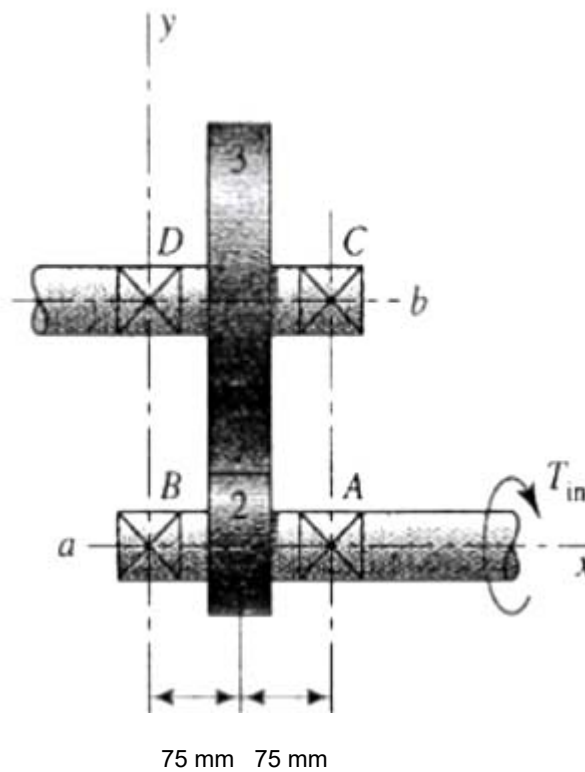

Figure 1(a)
1. (a) Figure 1(a) shows a pair of shaft-mounted spur gears having a diametral pitch of 5 teeth/25.4 mm with an 18-tooth 20° pinion driving a 45-tooth gear. The power input is 60 kW at 1800 rev/min.